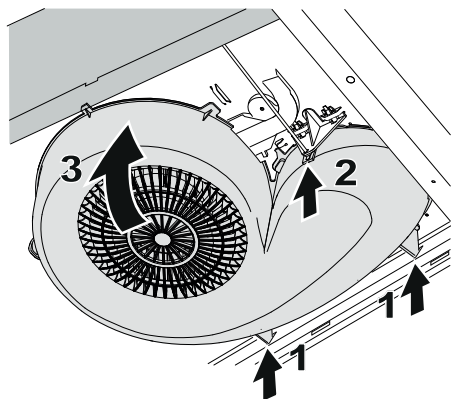

Fig. 7
Refit the blower by inserting the supports in the rear of the hood (1). Check that the damper shaft is correctly positioned in the blower (2). Bend up the blower (3). Fig. 7